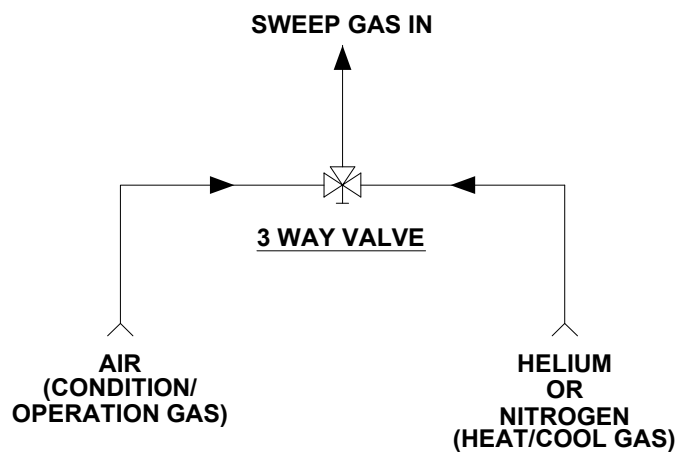

Figure 1
- a. A 3-way valve has been provided (see Fig. 1) to allow for simple connections to switch between **heat/cool** and **condition/operation** gases to the *Sweep Gas* inlet.